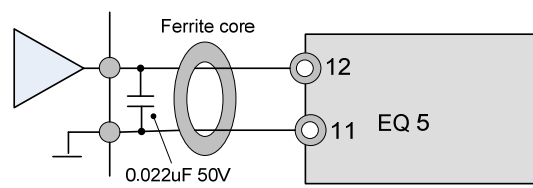

Fig. 2-3-9 Noise Suppression Example
An inverter of 40HP/CT, 50HP/VT or greater uses an AC cooling fan. When the inverter is being operated with DC Input power, the fan must still be energized from an AC power source. To do this, position the fan connector (CN RXTX) as shown in Fig. 2-3-9 and provide AC voltage to auxiliary input terminals R0 and T0. For the (CN RXTX) connector placement method, see Fig. 2-3-7.
c. If an external analog signal output device is connected to these terminals, it may malfunction as a result of inverter noise. To prevent malfunction, connect a ferrite core or capacitor to the external analog signal output device as shown in Fig. 2-3-9.